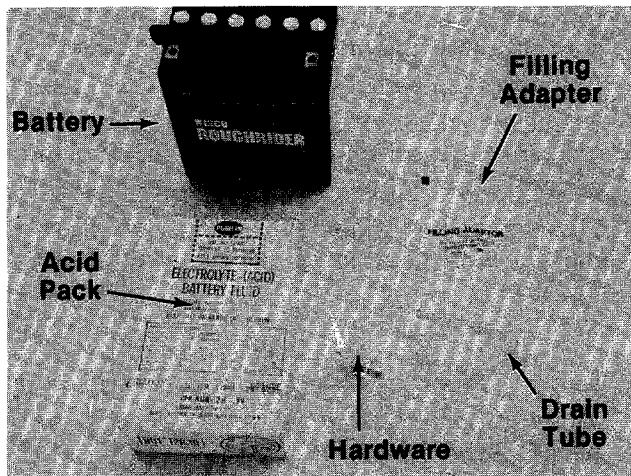

FIGURE 4.
1. Upon opening the battery pack, you should receive acid pack, battery, drain tube, filling adapter and hardware. See figure 4.